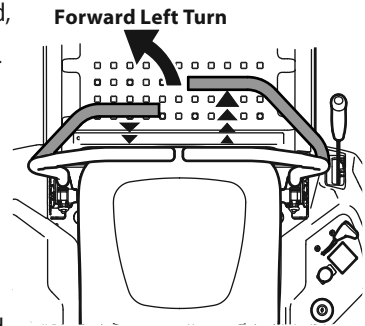

Figure 26
1. To turn to the left, move the left drive control lever rearward of the right drive control lever. See Figure 26.